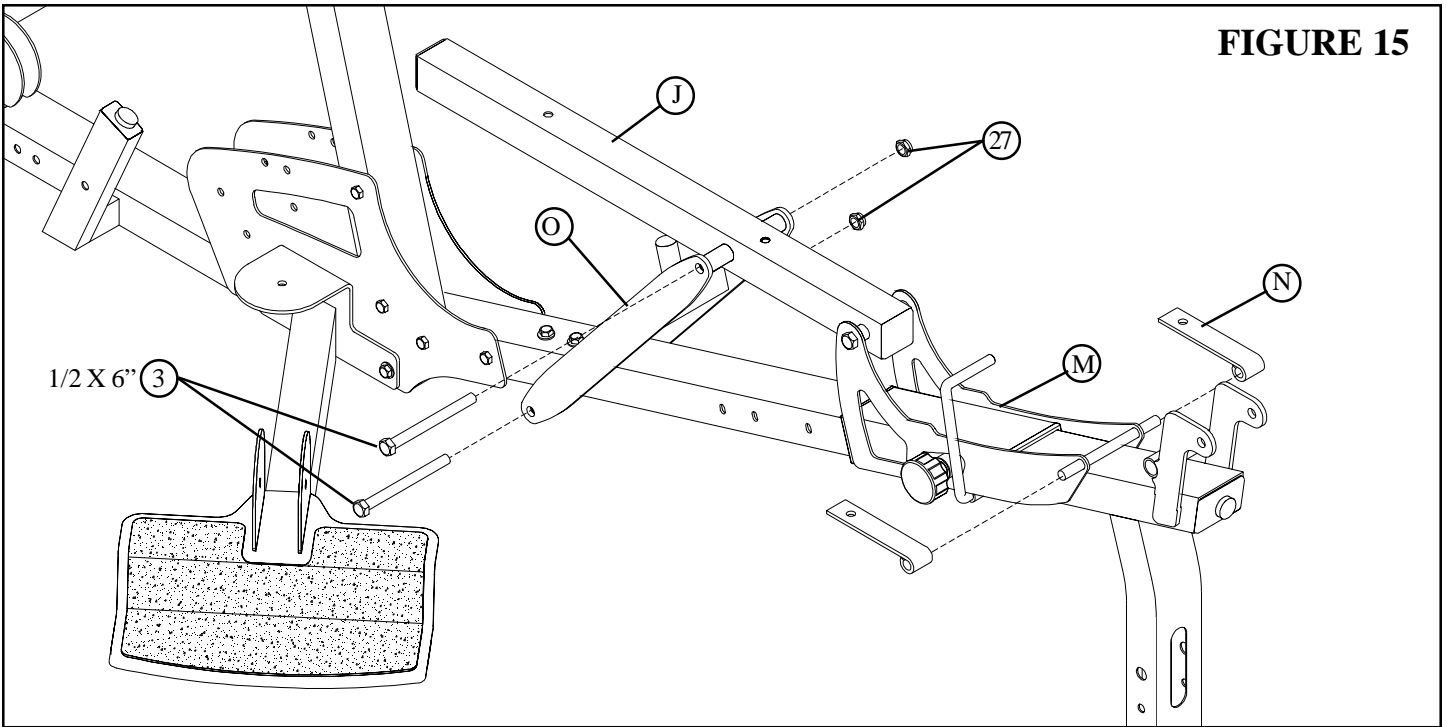

FIGURE 15
- Assemble the SEAT SUPPORT BRACKET (O) to the PIVOT ASSEMBLY (AG) and the BENCH TUBE (J) using two 1/2 X 6" BOLTS (3) and two 1/2" LOW HEIGHT LOCK NUTS (27). (Note: Tighten this connection enough to remove excess play yet allow the BENCH TUBE to rotate freely.)
- Assemble two SEAT HINGES (N) to the tubes on the SEAT ADJUST (M) as shown in FIGURE 15.